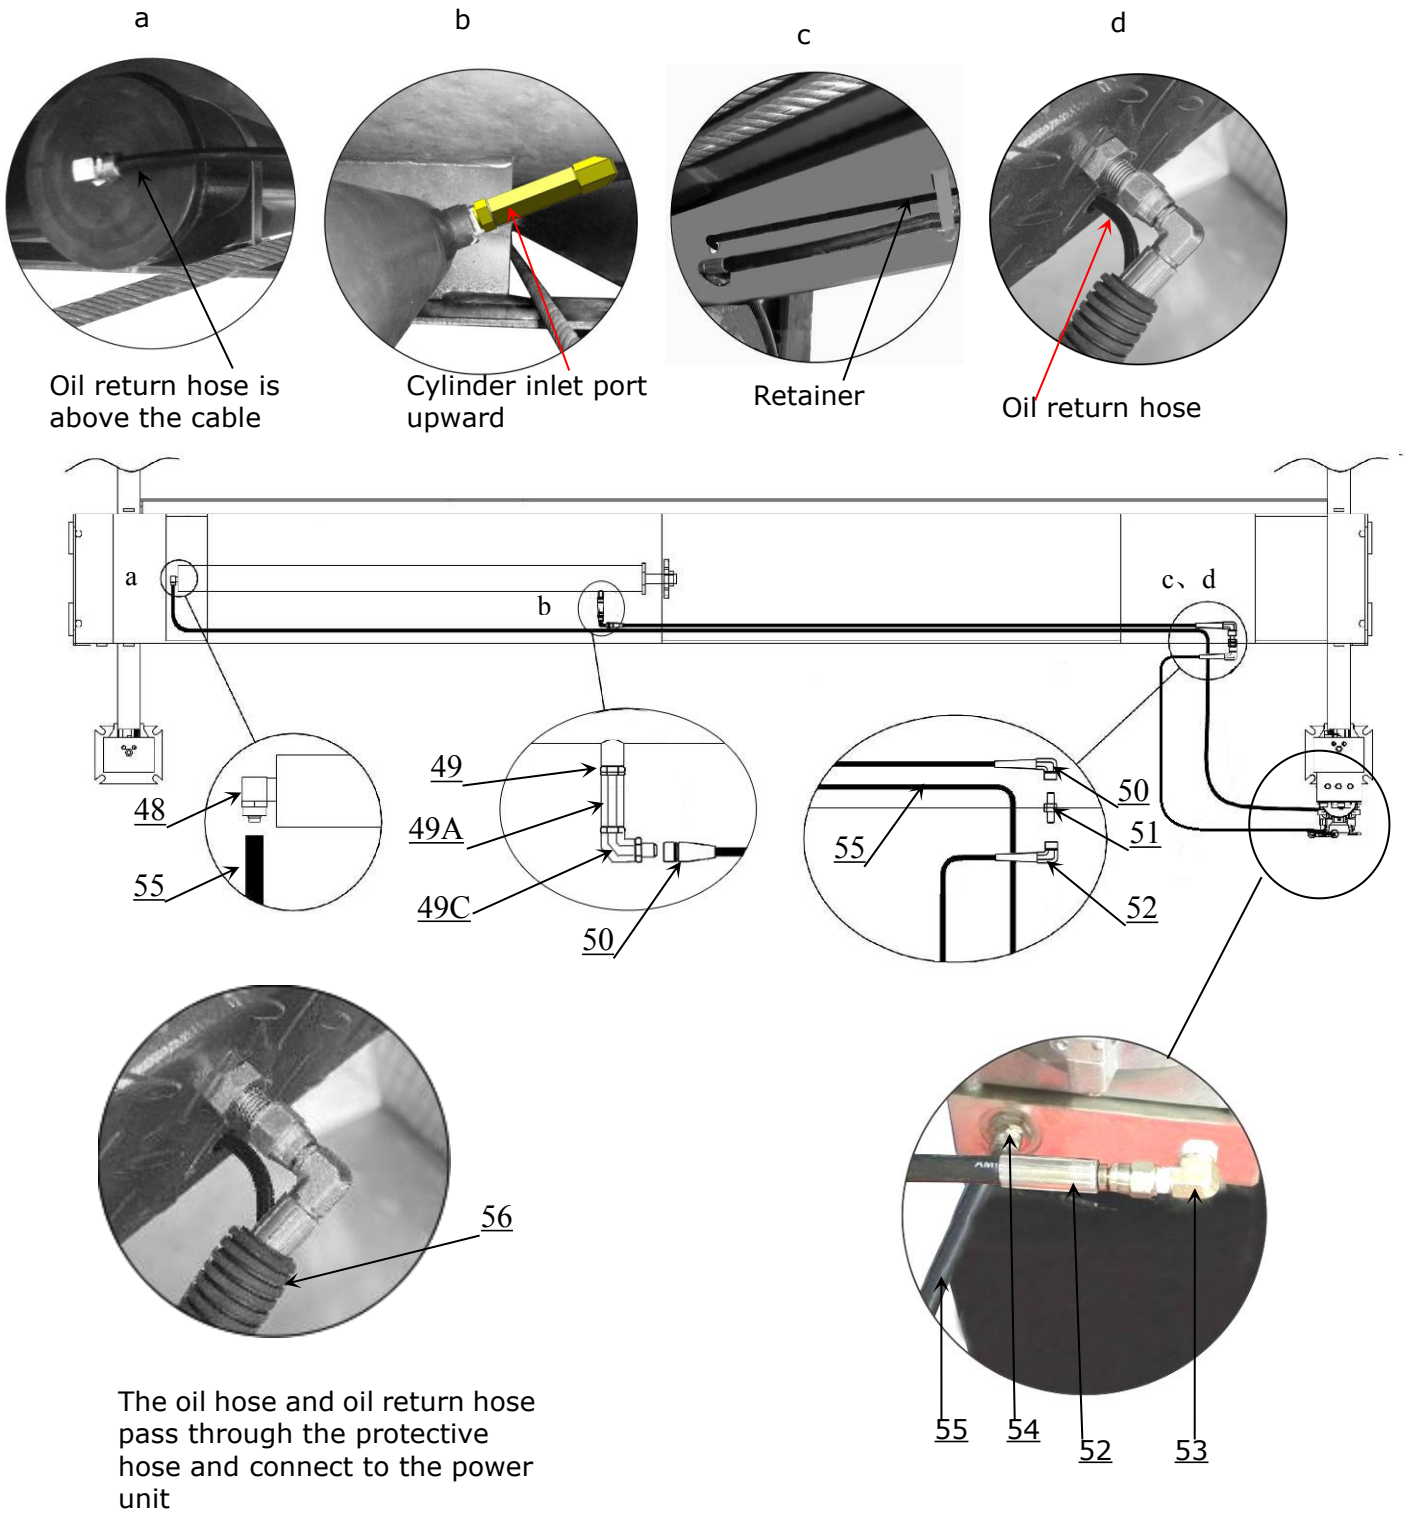

Fig. 26
1. For power unit install to the column at the side of cross beam **A** (See Fig. 26)